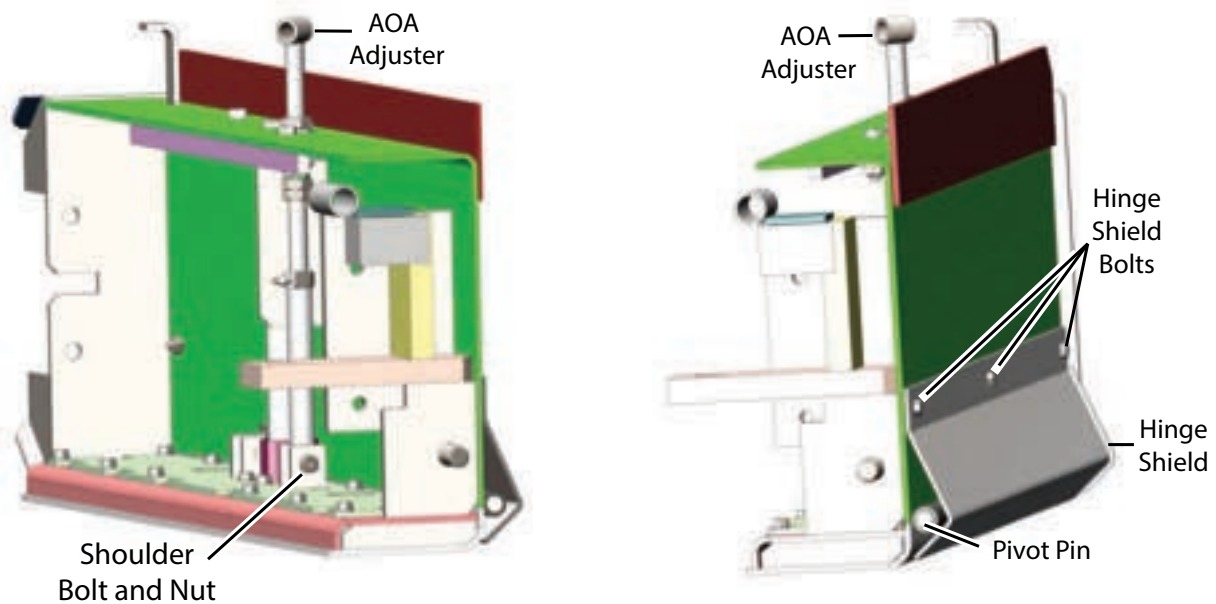

Figure 5-42 Wear Plate Replacement
3. Disconnect the extension AOA adjuster (**Figure 5-42**) on top of the wear plate by removing locknut, washer and shoulder bolt.